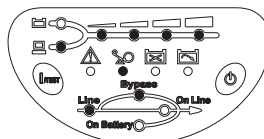

Fig 4-5 Overload and UPS turn into Bypass
- ✓ OVERLOAD: If the load exceeds the UPS rating, after a limited period, the overload LED will light on and buzzer continuous beeping to alarm the user. The user should unplug some uncritical loads to release the overload condition. Shown as fig 4-5.